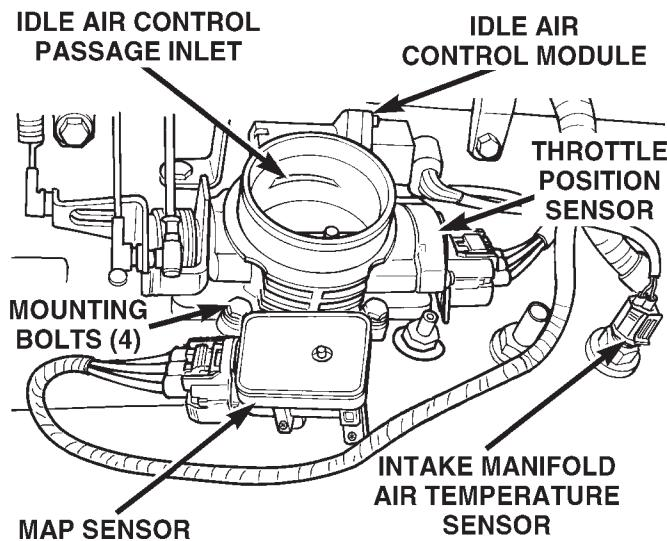
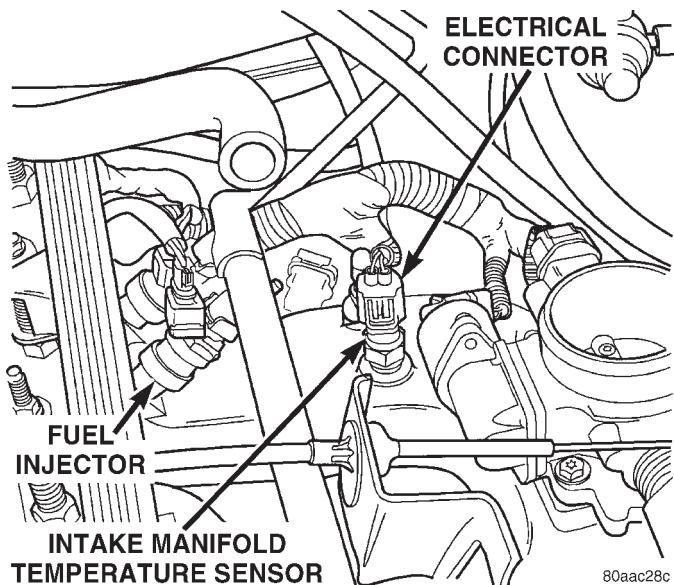

Fig. 33 Intake Manifold Air Temperature Sensor—4.0L Engine
Fig. 34 Intake Manifold Air Temperature Sensor—2.5L Engine
- 1) Disconnect wire harness connector from intake manifold air temperature sensor (Fig. 33) or (Fig. 34).
To perform a complete test of the TPS (Fig. 33) and its circuitry, refer to the DRB scan tool and appropriate Powertrain Diagnostics Procedures manual. To test the TPS only, refer to the following: